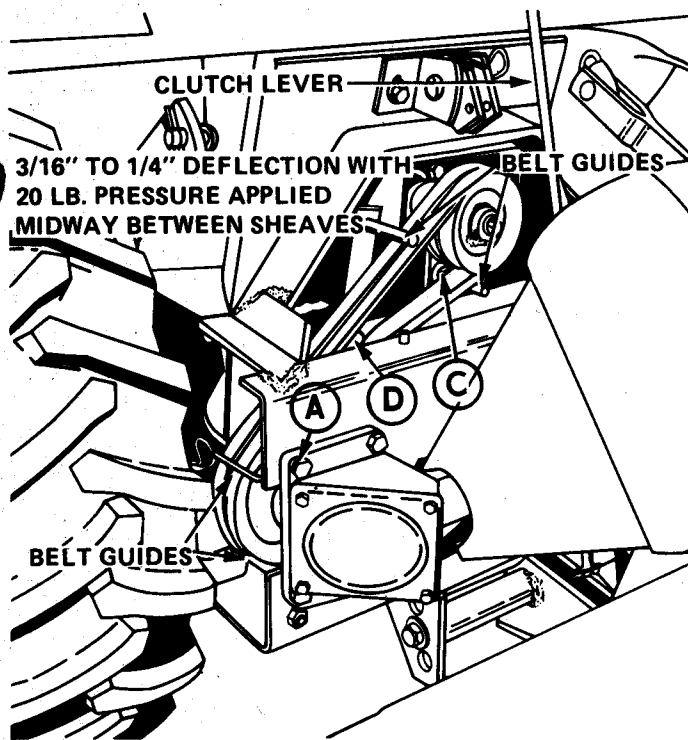

Figure 18
5. **Gear Box** — (Figure 18). Pack Gear Box with Ariens No. 000150 Moly Multi-Purpose Grease.
Engage the tiller clutch lever and measure the distance between each of the four belt guides and the drive belts, Figure 18. There should be from $\frac{3}{16}$ " to $\frac{1}{4}$ " clearance between each guide and the drive belts with the clutch lever engaged. Adjust clearance by loosening bolts A, B, C, D and moving the guides until proper clearance is obtained. Tighten the bolts securely.
It is important that the drive belts are kept tight. If the clutch lever engages too easily or does not stay engaged, it will be necessary to adjust the belt tension. Proper tension is obtained when the belts deflect $\frac{3}{16}$ " to $\frac{1}{4}$ " with a 20 lb. force applied midway between the belt sheaves. (See Figure 18). Tension must be checked with the clutch lever engaged.